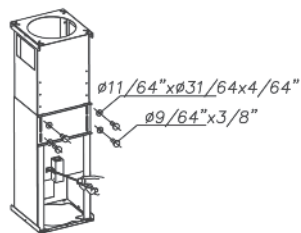

Fig. 3
• Adjust the length of the telescopic structure and attached the two pieces with 8 screws and washers. Bear in mind that the minimum distance from working surface to the base of the hood should not be less than 22" (Fig. 3).